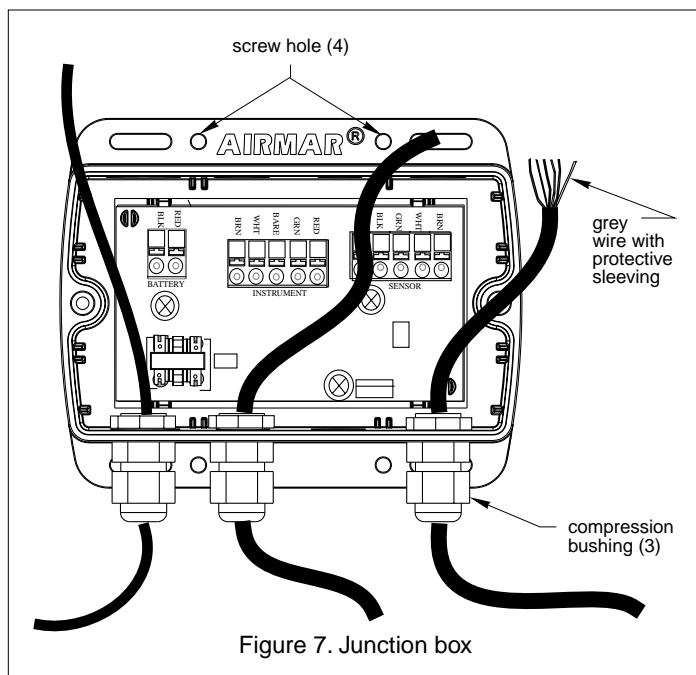

Figure 7. Junction box
1. Remove the junction box cover (see Figure 7).